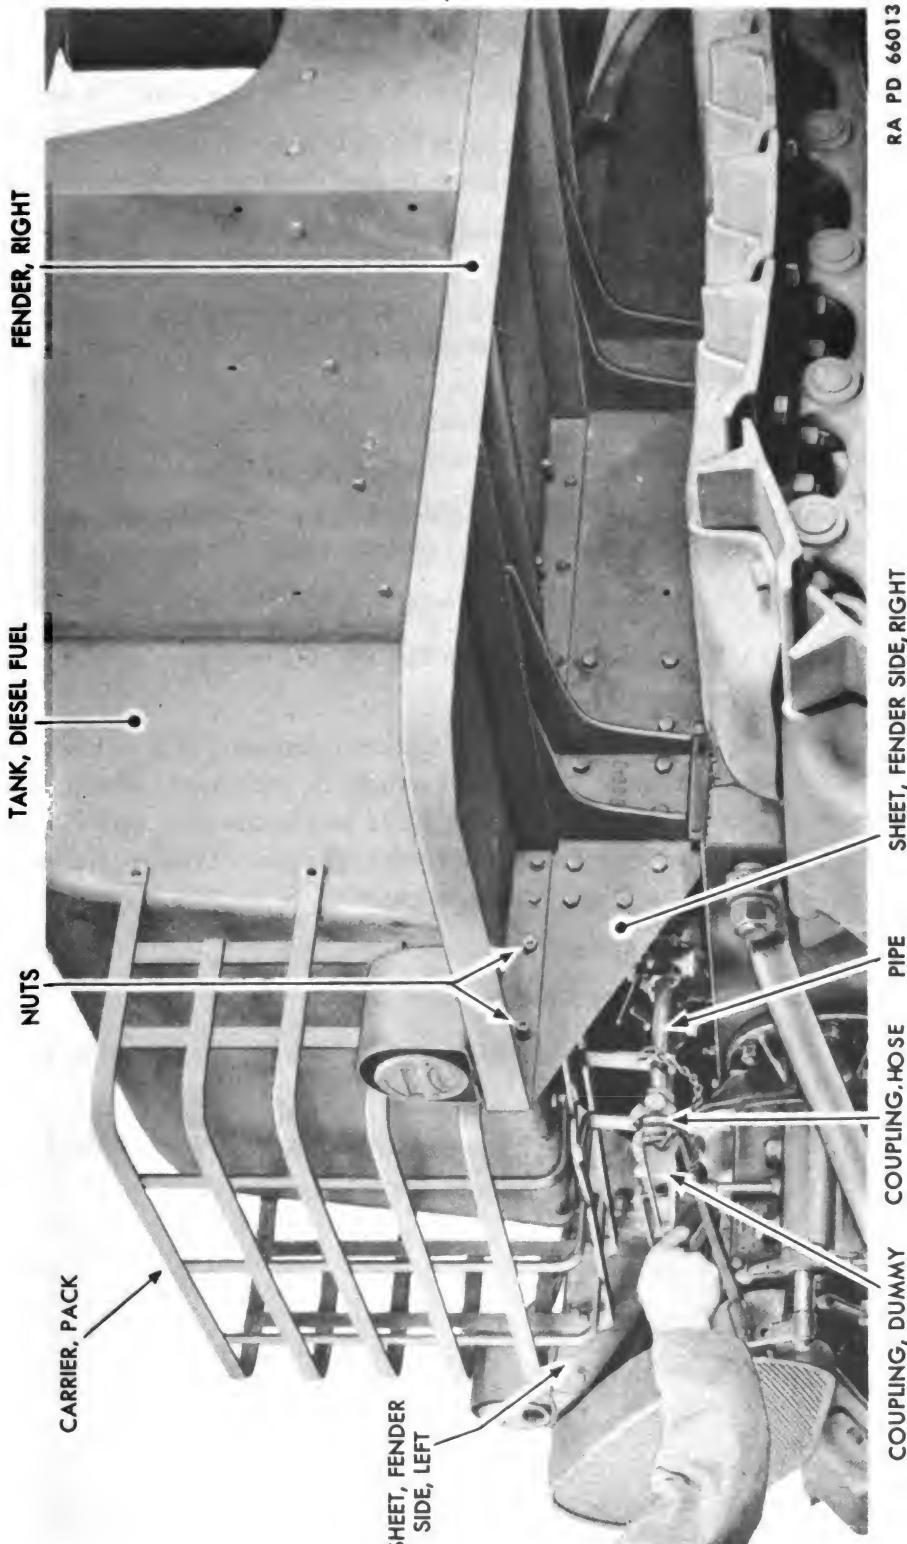

Figure 199 – Pack Carrier Installation
(21) INSTALL PACK CARRIER (fig. 199).